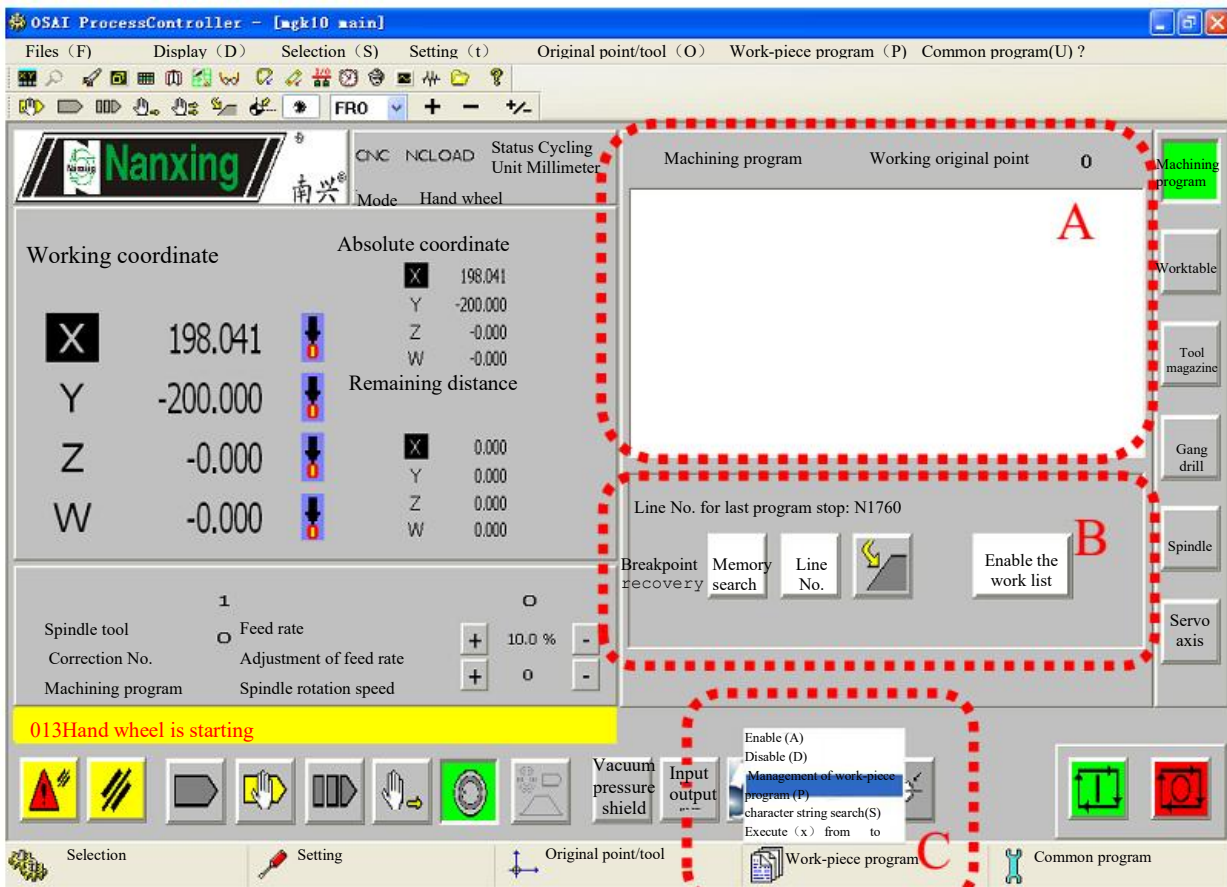

Fig. 6.15
2. Fig.6.15 (A) shows the starting machining program at present.
3. Function of machining program breakpoint recovery (as shown in Fig.6.15 (A)) can help users find the line No. of program interruption during last machining, and continue to machine from the point of interruption. First start up the last operated machining program, and Click "Memory search", then continue to operate according to the prompts displayed in the screen, until finding the breakpoint.
4. Call the NC code of machining program, as shown in Fig.6.15 (C).